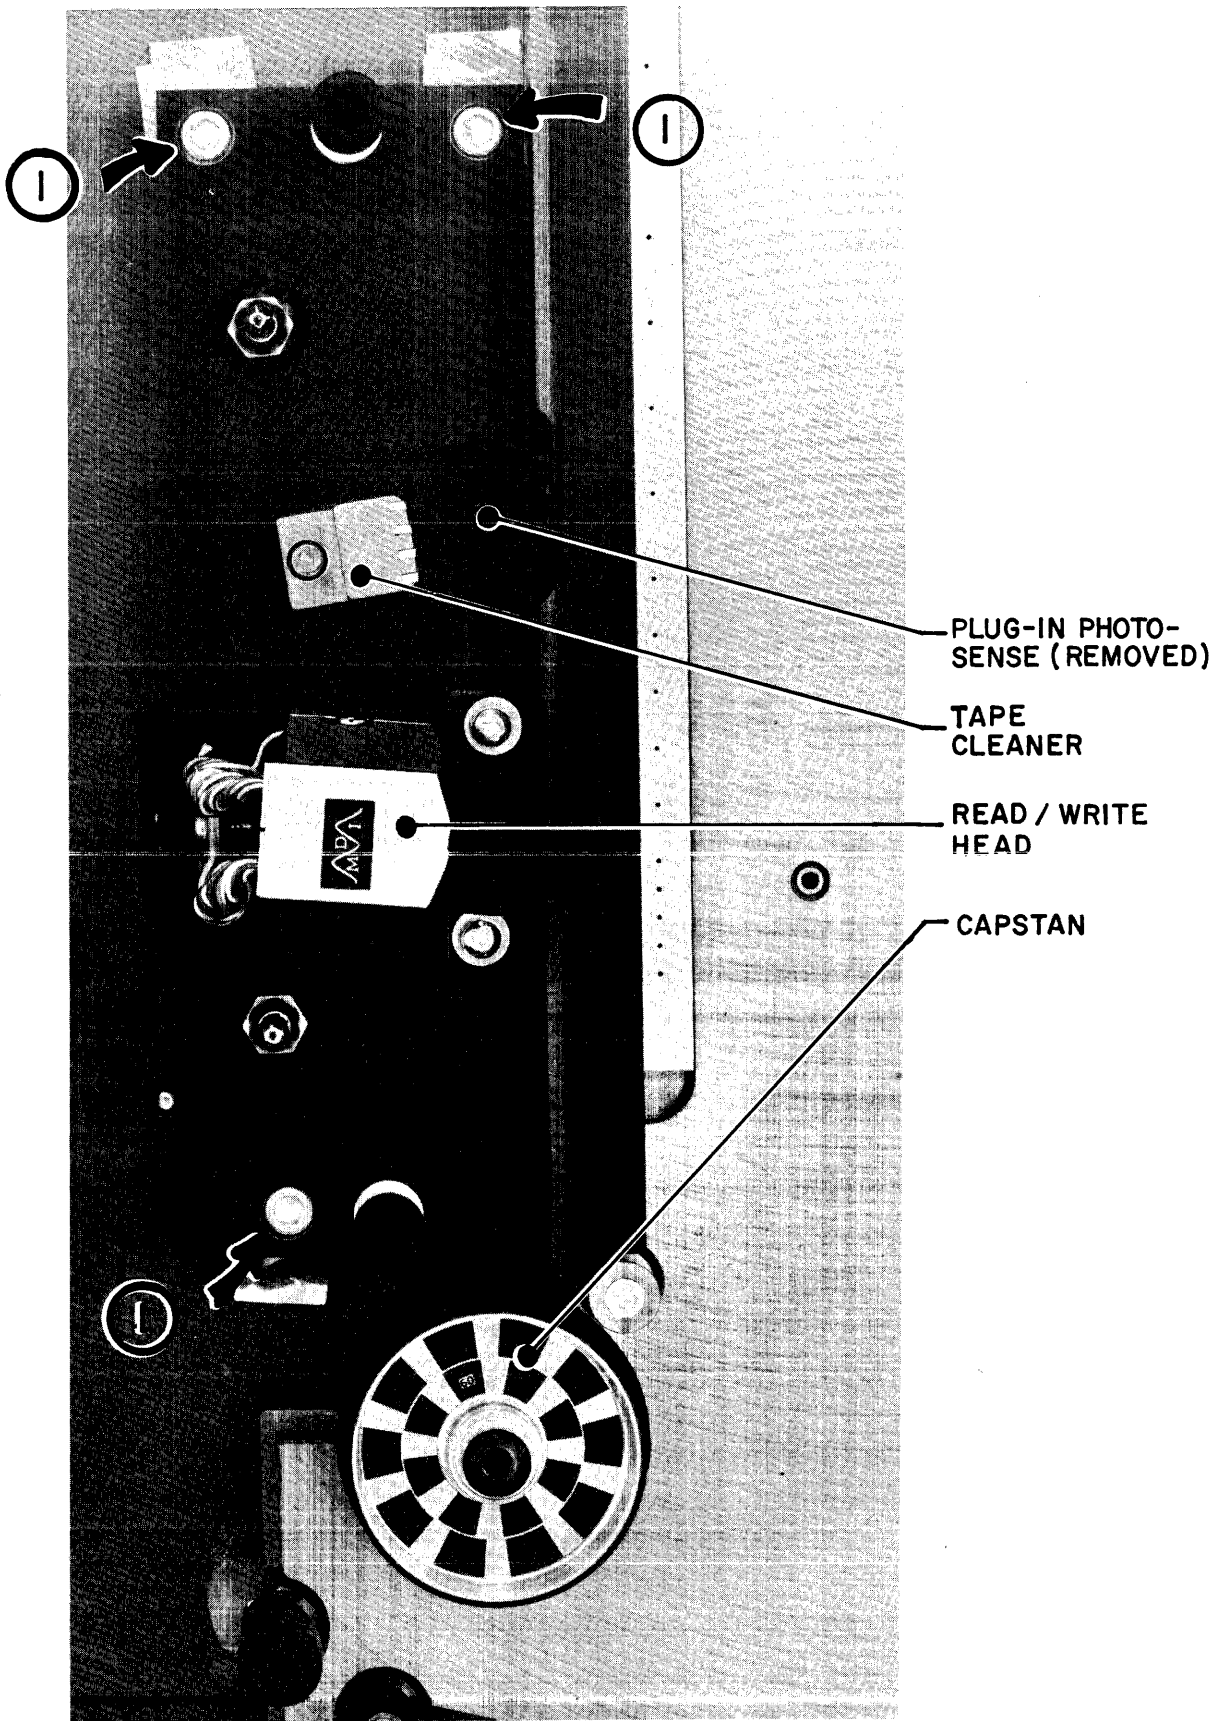

Figure 39. Head Assembly Replacement
5. Remove the three large Allen screws (item 1, Figure 39) fastening the head plate assembly to the deck. Be sure to support the head assembly to prevent damage when removing the screws. Observe the location of shims under the head plate and replace in the same position when installing the new head plate.